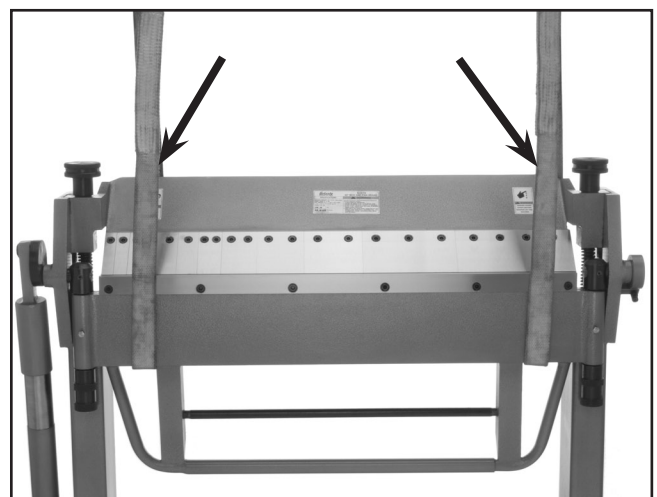

Figure 2. Pan and box brake supported evenly by two lifting straps.
- Make sure the body of the brake is bearing the load (**Figure 2**).